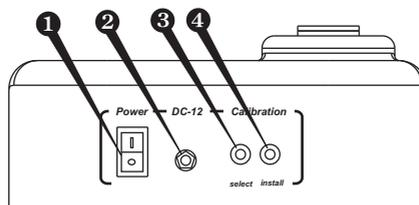

Fig.2 Rear panel
- Alternatively connect the external power supply unit to the socket (fig.2/②) on the rear side of the unit.
- 3.4.2. Switch ON the unit with the **Power** switch (Fig.2/❶) on the rear panel (position I).
- 3.4.3. With a pin press **Select** button (fig.2/❸) on the backside of the unit (for **Select** and **Install** buttons use thin pin, not more than 2 mm diameter). The display indicates flashing figure "- - -" the unit is ready to save calibration value of the first point - empty socket.
- 3.4.4. With a pin press **Install** button (fig.2/❹), "Empty socket" point is saved in the memory and the next calibration value is displayed (flashing figure "0.0").
- 4.2 Switch ON the unit with the Power switch (Fig.2/ ❶) on the rear panel.